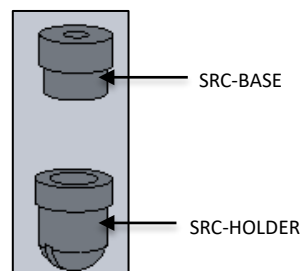

FIG. 23 - SLIP RING COUPLER (1) CONTENTS
1. Dis-assemble the SLIP RING COUPLER (1) as shown below in FIG.23 into components SRC-BASE and SRC-HOLDER.